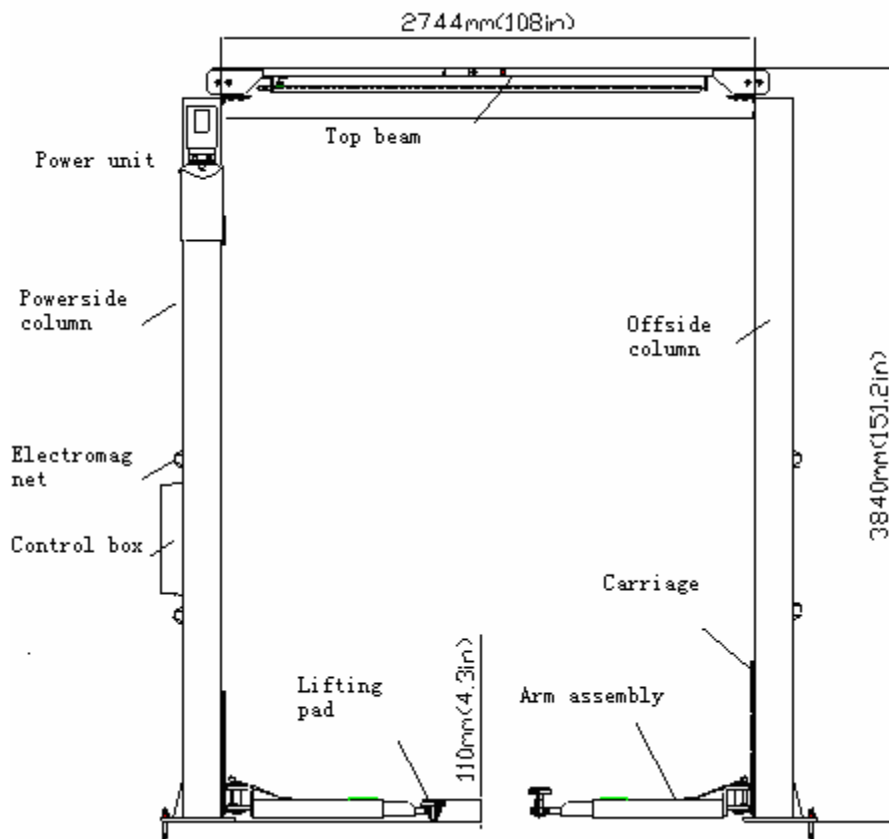
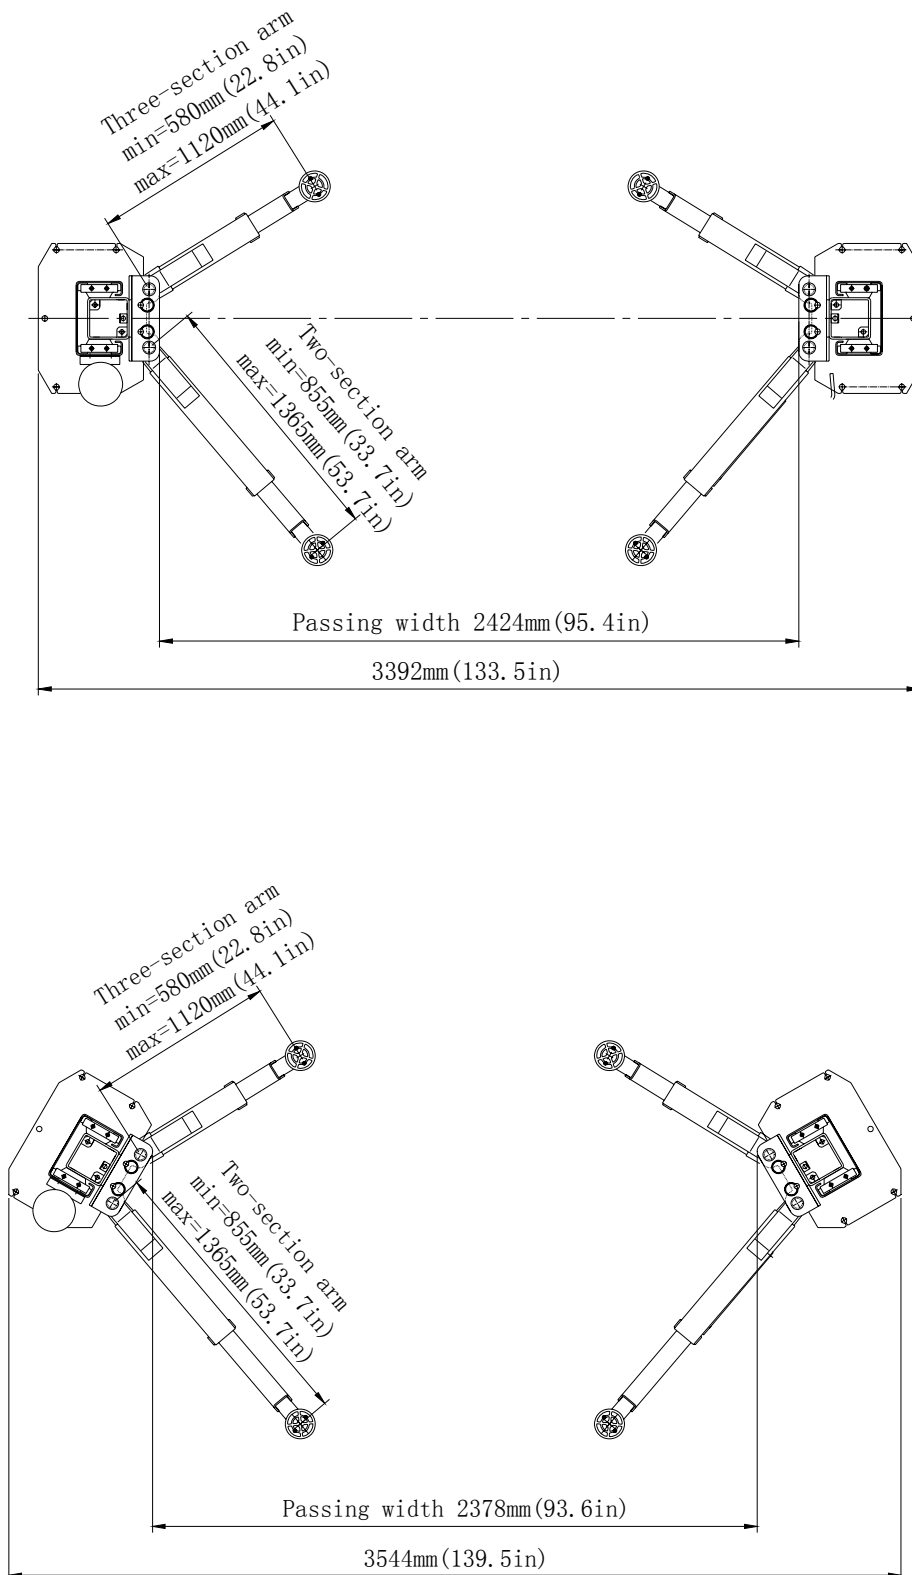

Fig.1d
Fig 2d
TLT235SCA(U) clear-floor 2-post lift	3.5T Electronic clear-floor 2-post lift (Fig1d、Fig2d)